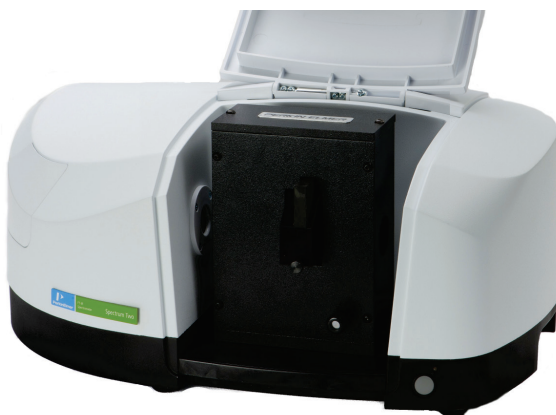

Figure 5 Diffuse reflectance accessory installed in the Spectrum Two
2. Pull the baseplate of the current sample accessory towards you, and slide the accessory out of the sample area (Figure 5).
5. Slide in the Diffuse Reflectance Accessory baseplate (Figure 5). Push it in firmly to ensure that the connector on the rear of the baseplate connects properly with the spectrometer connector.